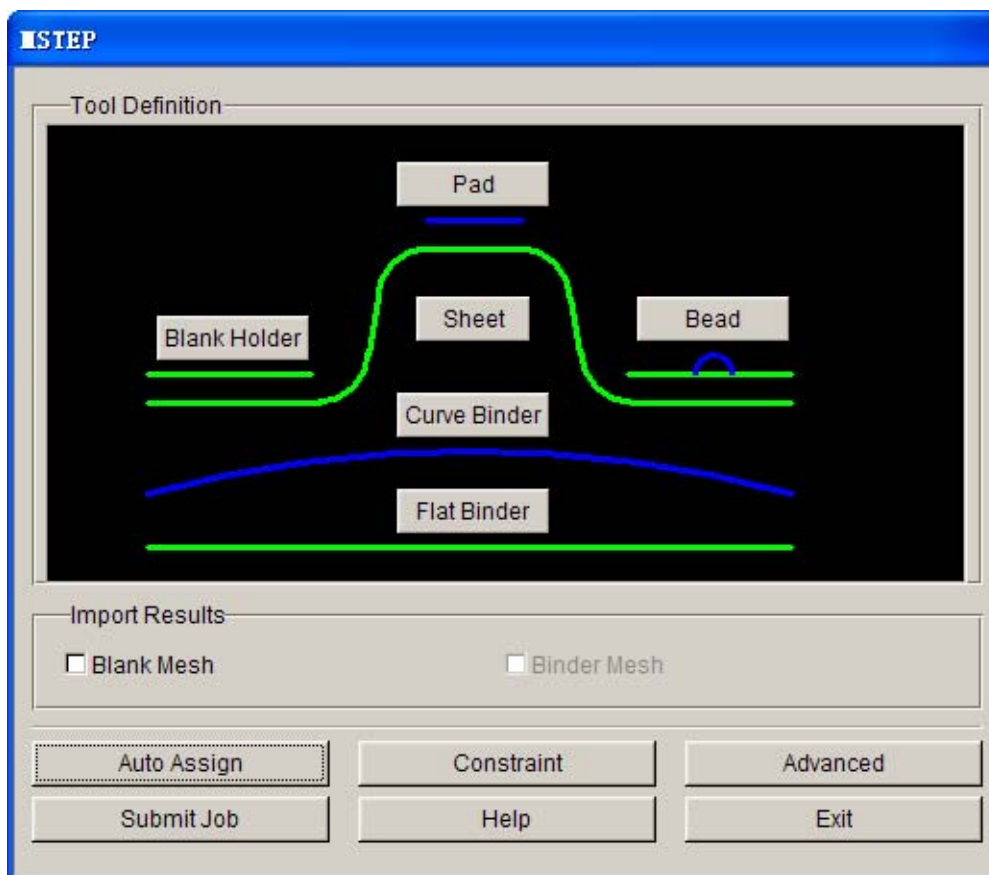

Figure 3.26: MSTEP GUI after Blank Holder definition
- 14) Click “OK” to return to the MSTEP dialogue window, user can find the outline representing the blank holder in the dialogue window has changed from red into green, which indicates the definition of blank holder tool has been completed. See figure 3.26.